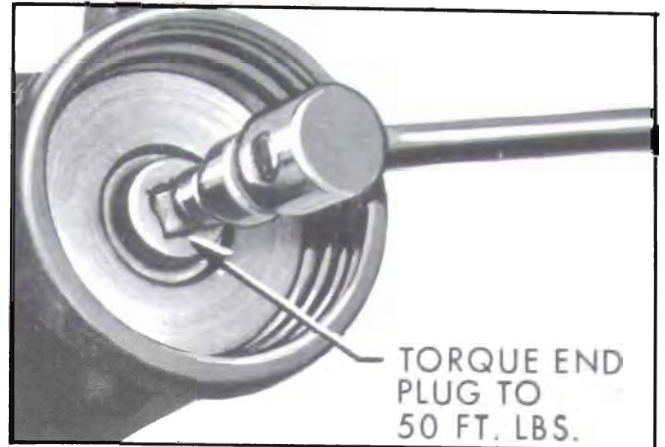

Figure 8-68—Torquing Rack-Piston Nut End Plug
7. Install rack-piston end plug in rack-piston nut, using 1/2" square drive. Torque plug to 50 ft. lbs. See Figure 8-68.